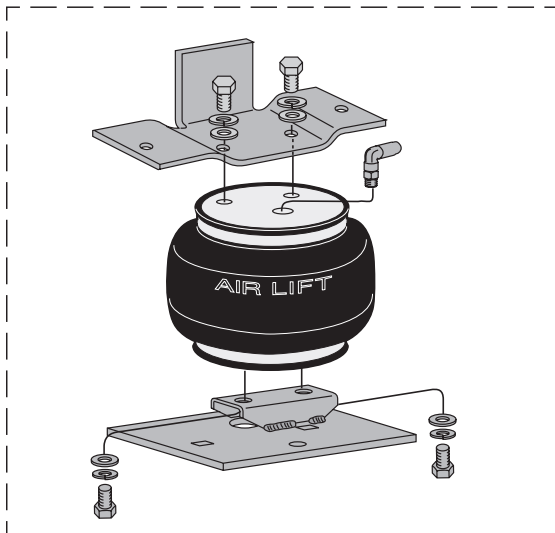

fig. 1
6. Set a roll plate (E) on both ends of the double convolute bellow (Fig. 1). **Kit 57128 with the single convolute bellow does not require roll plates.**
8. Attach the lower bracket to the bellow using two bolts (H), two lock washers (I), and two flat washers (J) (Fig. 1).
9. Attach the upper bracket (B) to the bellow using two bolts (H), two lock washers (I), and two flat washers (J). Be sure that the tall vertical leg of the upper bracket is opposite of the air fitting port (Fig. 1).